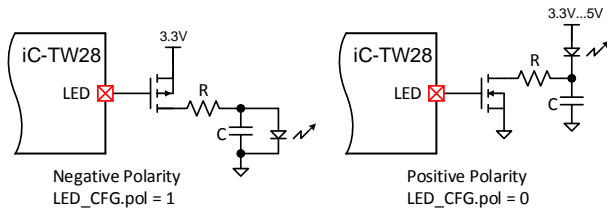

Figure 43: High Current/Voltage LED Connection
If maximum LED current is more than 15 mA or the maximum LED current cannot be supplied by a 3.3 V supply, use an external FET to connect the LED to the iC-TW28 as shown in Figure 43. This is typically the case for blue LEDs due to their higher  $V_f$ .
**Note:** As the iC-TW28 runs at 3.3 V, the LED output may not be able to power a blue LED because  $V_f$  may exceed 3 V. To operate the LED from 5 V, use an external n-channel FET as shown in Figure 43 (right side). This circuit also avoids an overvoltage at pin LED ( $V(\text{LED}) < \text{AVDD} + 0.3 \text{ V}$  is required).